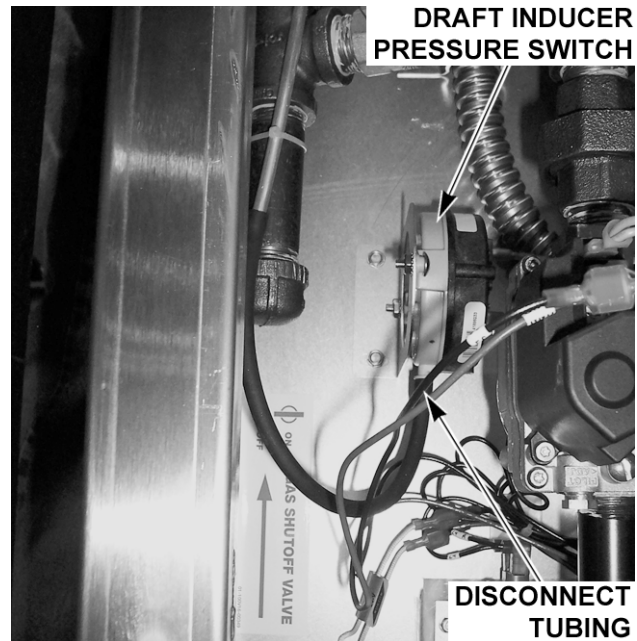

Fig. 22
3. Verify draft inducer pressure switch (Fig. 22) operation.